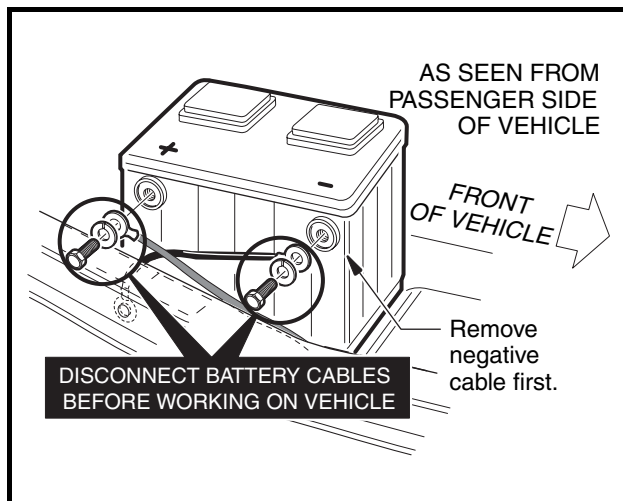

Figure 10-1 Battery Cable Removal
- **Disconnect battery cables, negative (–) cable first (Figure 10-1, Page 10-3).**